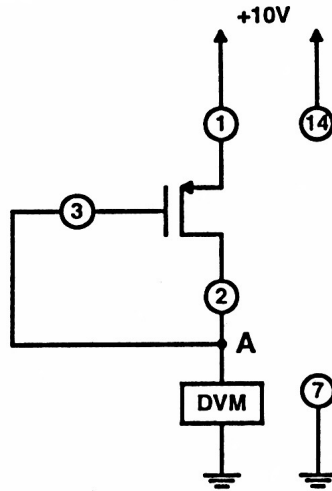
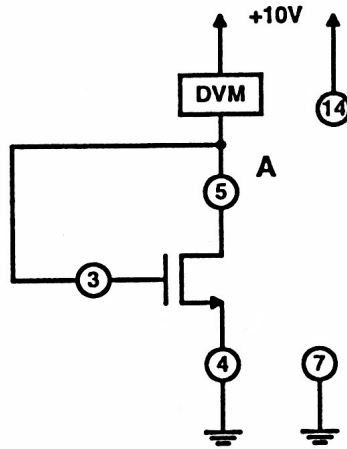

Figure 2: Measurement of  $V_t$  for a p-channel device.
Figure 3: Measurement of  $V_t$  and  $k$  for an n-channel device.
For the setup shown in Fig. 2, with the supply voltage adjusted to 10.00 V, the DVM reading (node A to ground) is found to be 8.91 V. Estimate the device-threshold magnitude.
For the setup shown in Fig. 2, and the device and situation described above, a 1 k $\Omega$  resistor shunting the DVM reduces its reading to 1.53 V. What value of  $k_n = \mu_n C_{ox}(W/L)_n$  applies?
- **Setup:** Assemble the circuit as shown in Fig. 2 using your array. Ensure that both substrate pins (14 and 7) are connected appropriately. All other pins may be left floating. Ensure that the supply is precisely some convenient value (say 10.00 V), by connecting pins 1 and 2 momentarily (and reading the DVM).
- **Setup:** Use the circuit shown in Fig. 2, the same as above.
- **Setup:** Assemble the circuit shown in Fig. 3. Notice the relationship to Fig. 2. Note that the NMOS substrate is grounded through pin 7.